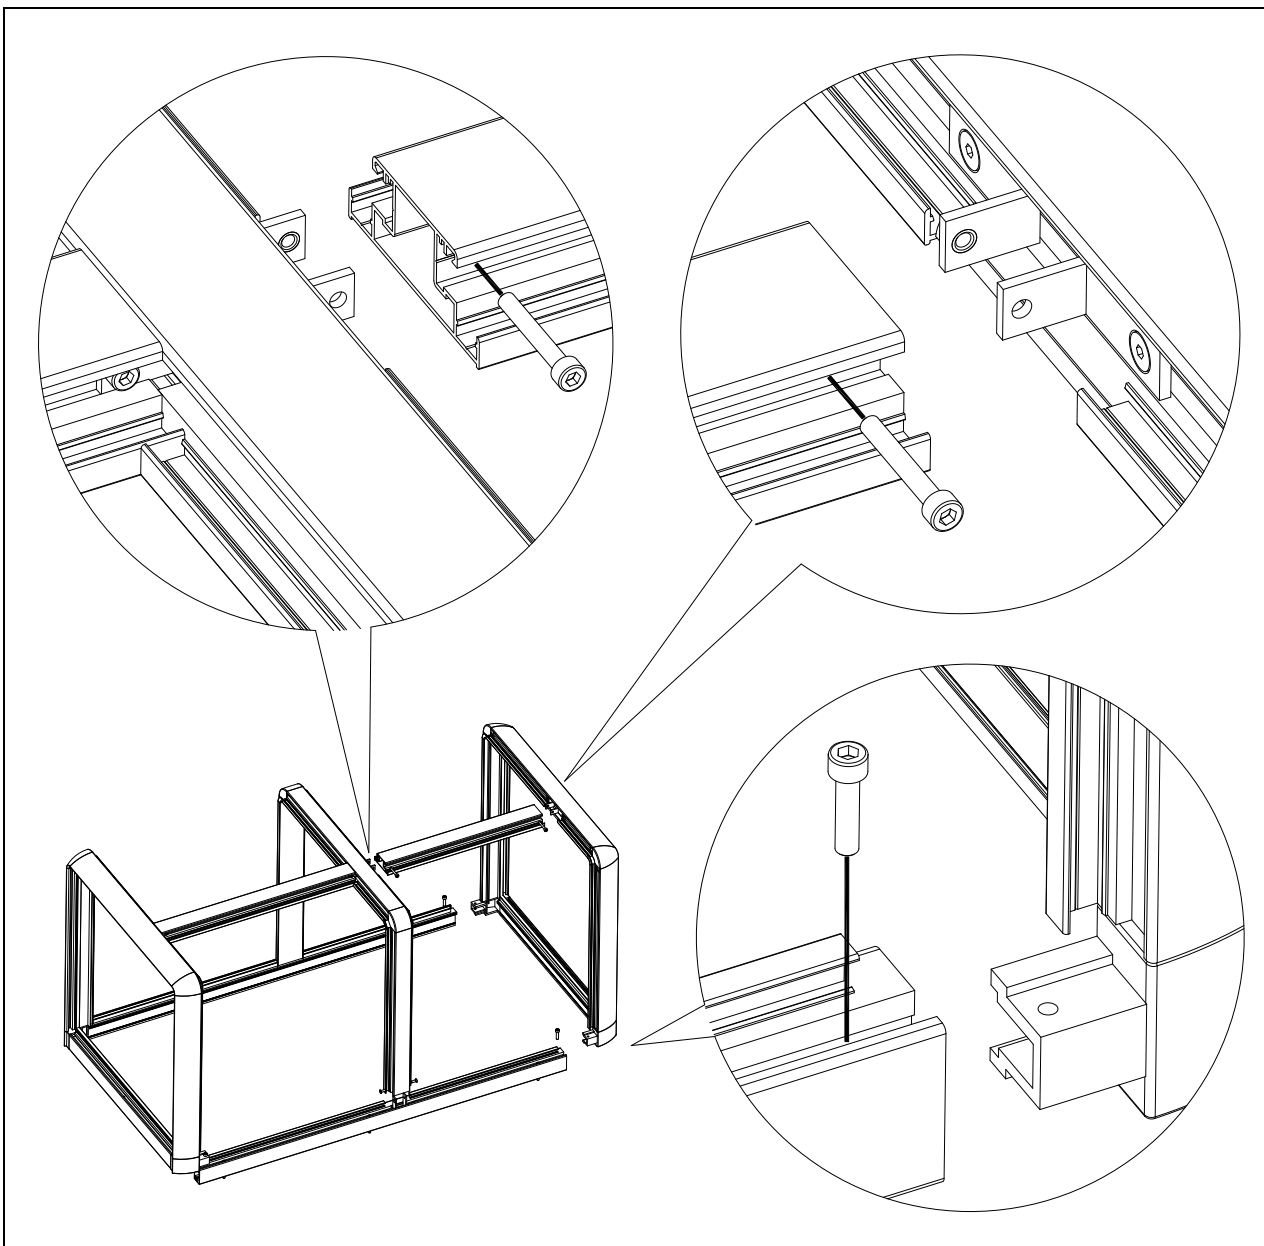

Figure 24: exploded view sound shield M-SQ16
Loosen the bolts slightly, remove the rocker assembly (the rocker arms, shaft, and stays) and then retighten the bolts to the specified torque in the numerical order illustrated (ref. to fig. 24).
- 2 The sound shield canopy can be disassembled according to exploded view below (figure 24).